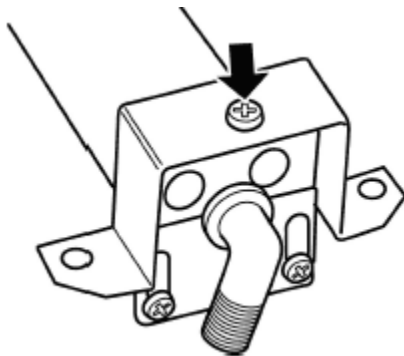

Figure 48. Main burner injector removal
(See figure 48).
2. Remove the burner clamping screw (See figure 48)